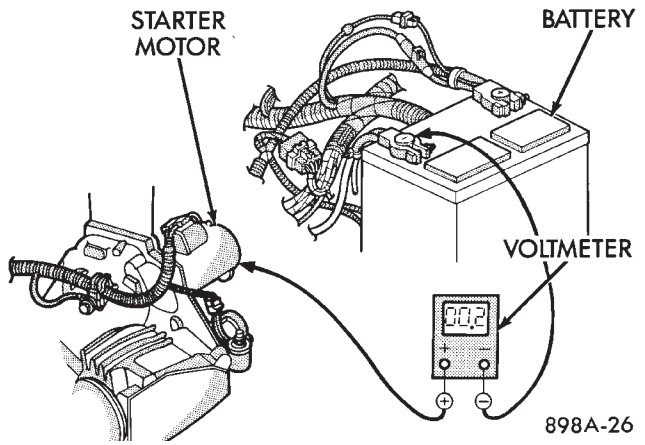

Fig. 5 Test Starter Motor Ground (Typical)
(7) Connect positive voltmeter lead to starter motor housing. Connect negative lead to battery negative terminal (Fig. 5).